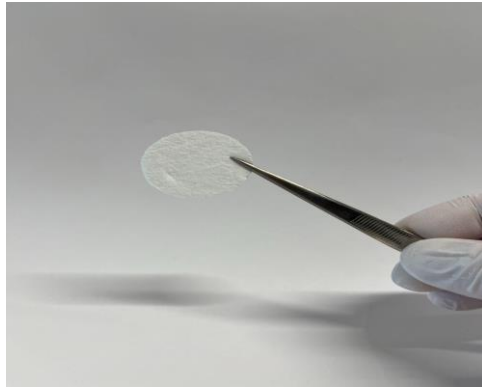

Figure 8. Fix the Gelacell discs using mounting media for imaging.
4. **Handling:** Unclip the cell crown by rotating the bottom part (small part). Use fine point tweezers/forceps (straight or angled) to hold the scaffolds (see Figure 8) and place it on a glass slide. Add one or two drops of mounting media to fix the inserts and cover it with cover slip (Figure 8).